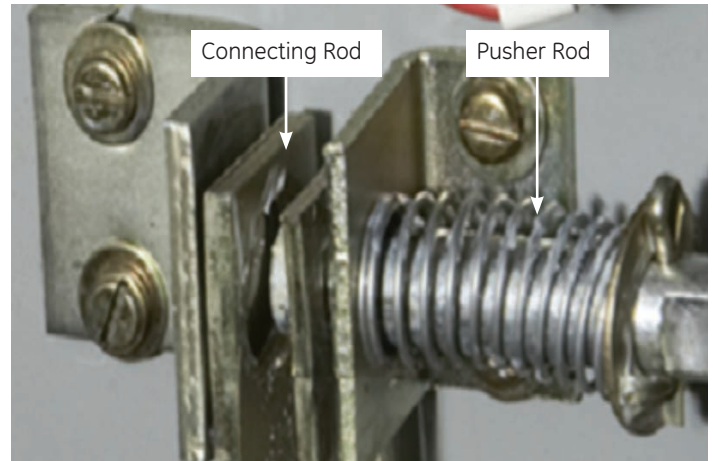

Figure 10. View of unblocked Pusher Rod when the contactor is open.
Step 1: Adjust the nuts to shift the connecting rod position as shown in Figure 10.